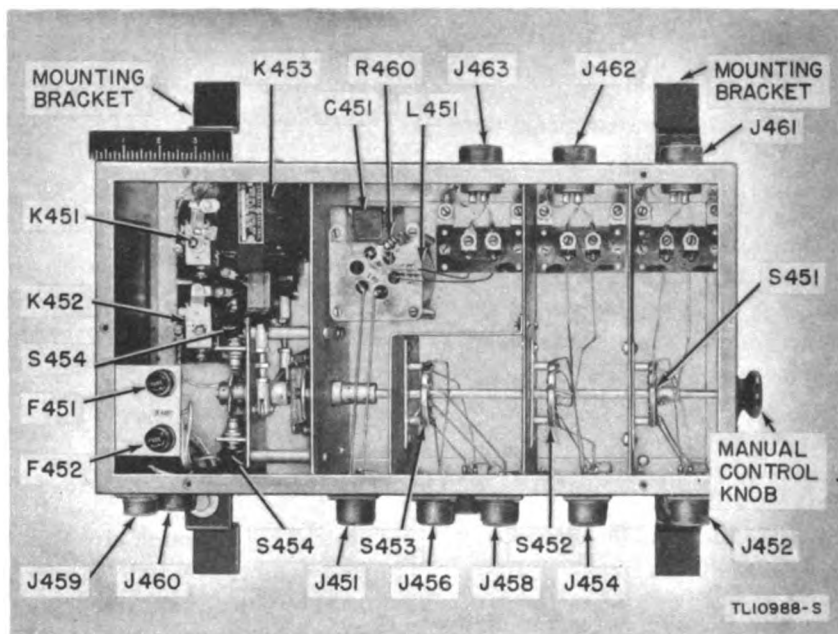

Figure 121. Junction Box J-99/CRD-3, front view without cover showing parts location.
a. Loosen the Allen head setscrew and remove the knob (fig. 121) on the side of the junction box.